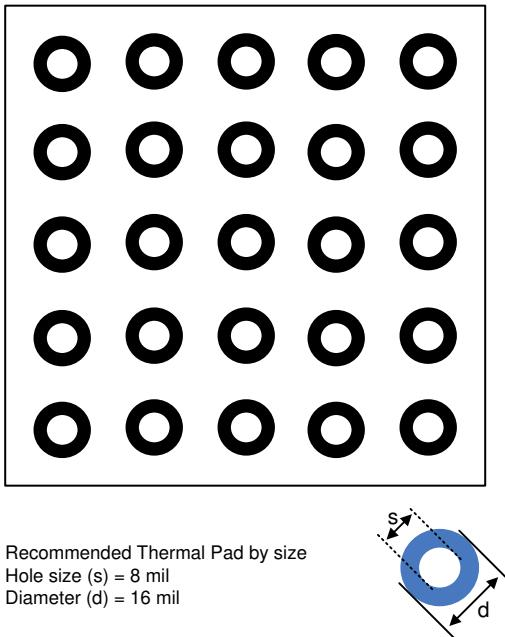

图 10-2. Thermal Pad Layout Recommendation
- The thermal pad should be tied to the PCB ground plane with a minimum of 25 vias. See 图 10-2 for an example.